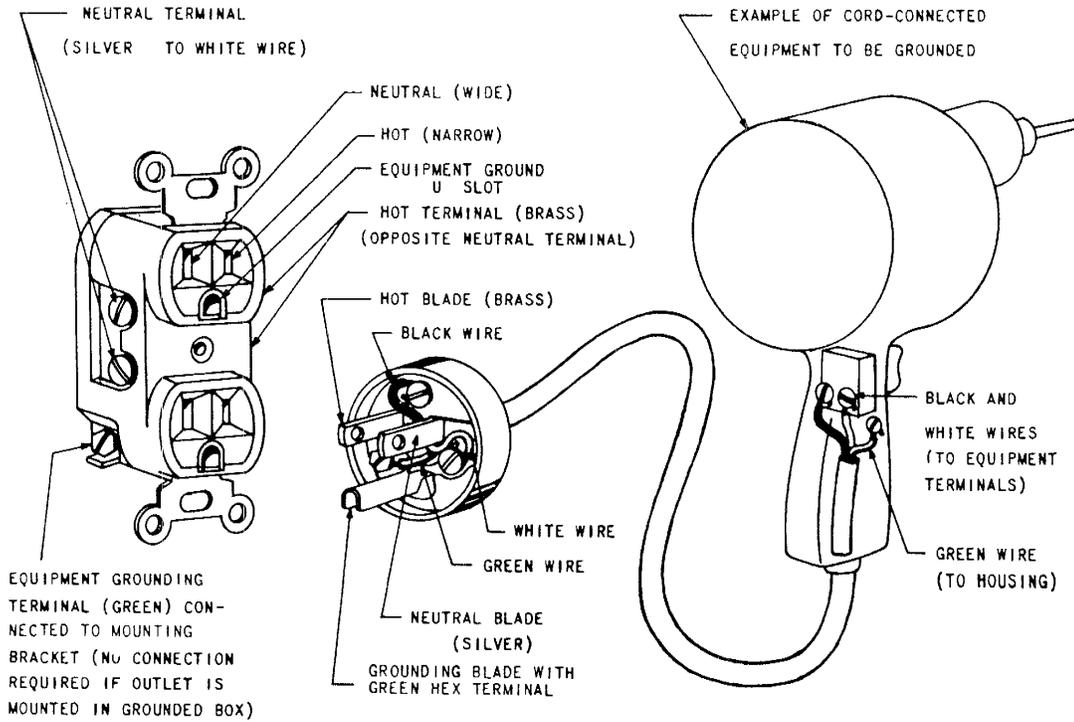

Fig. 5 — Wiring of 125-volt Standard Plug and Receptacle
5.01 The most satisfactory method of providing an effective ground is through the connection of a 3-blade plug to a comparable 3-wire receptacle. (see Fig. 5).